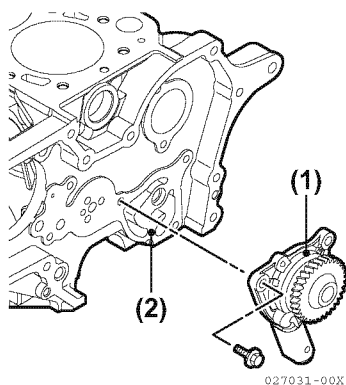

Figure 9-4
2. Remove the lubricating oil pump assembly mounting bolts. Remove the lubricating oil pump assembly (**Figure 9-4, (1)**) from the gear case flange (**Figure 9-4, (2)**).